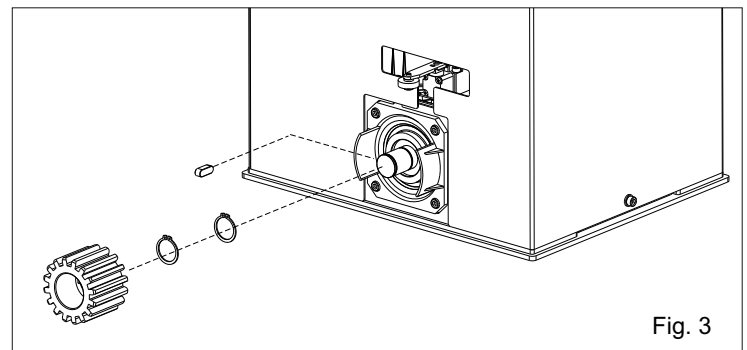

Fig. 3
- Put the spline into the motor reducer shaft as in Fig. 3.
- Mount the pinion on the motor as shown in fig.3